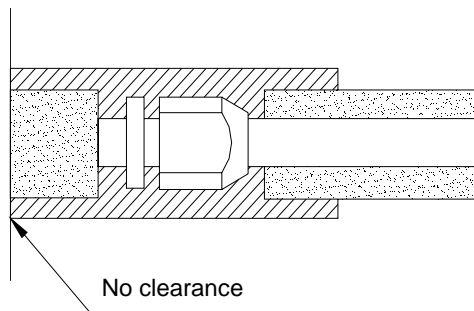

Fig.11-21
- b) The connector of indoor unit shall be wrapped with heat insulations properly, without any clearance to the wall surface on which the indoor unit is mounted. See Fig.11-21.